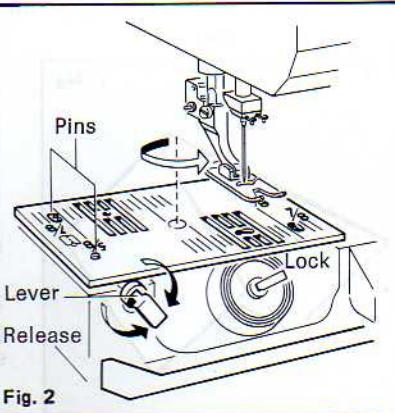

Fig. 2
Your machine is equipped with a special needle plate that can be rotated depending upon whether you are straight or zigzag stitching. To do this: Open bobbin area cover (22) and turn the flat lever (25) counter clockwise as indicated in Fig. 2. Lift needle plate and rotate 180°. Check that small lateral holes are above the small pins protruding from the machine.